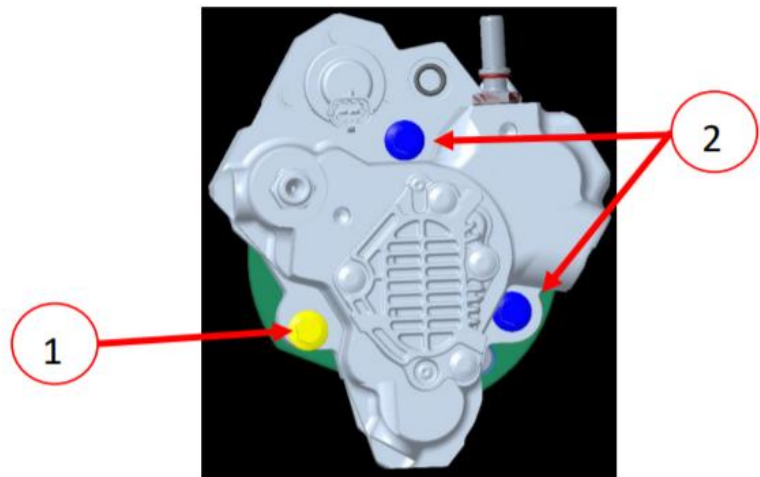

Figure 24 – HPFP Bolts
16. Install the long 60 mm capscrew (PN 3901446) (1) first loosely (yellow bolt in picture below) (Figure 24).
17. Then install the two shorter 40 mm capscrews (PN 3900678) (2) (blue bolt in picture below) (Figure 24).